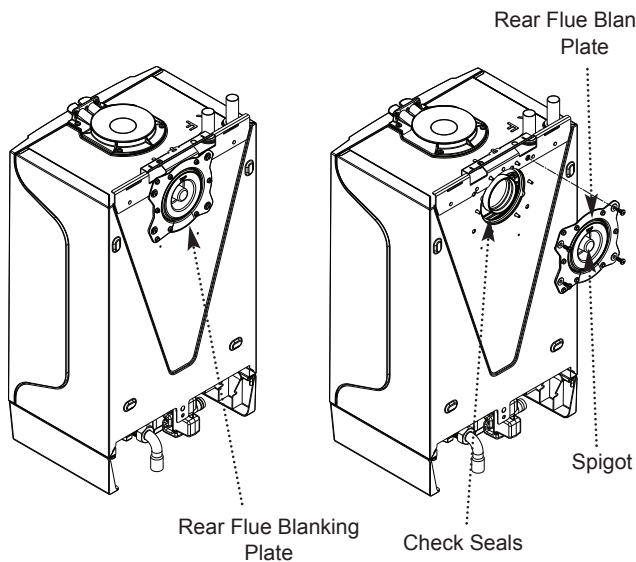

Fig. 37
9. Undo the screws securing the rear flue blanking plate. Firmly grip the central spigot and pull the plate off the boiler. Ensure that the flue connection seals remain in place (Fig. 37).